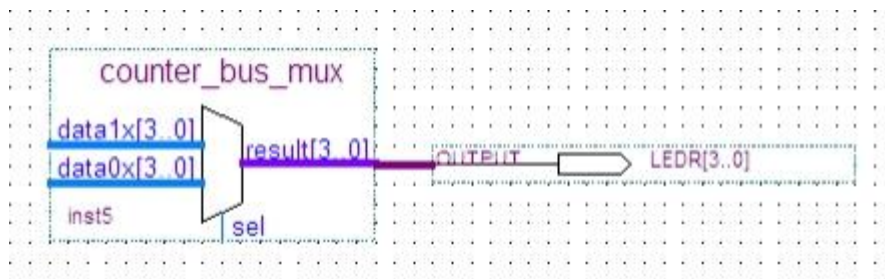

Figure 3-28 Rename the output pin
18. Rename the output pin as LEDR [3..0] as described in steps 13 c and d. (see Figure 3-28).